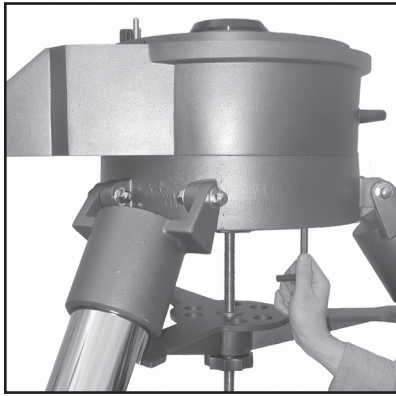

Fig. 31: Attach the drive base to the tripod.
3. Position the 16" drive base onto the field tripod, with the power panel facing South. Secure the drive base using the three 1/2"-13x1-1/2" long bolts. Thread these bolts up through the underside of the tripod head into the drive base using the supplied hex key. Firmly tighten these bolts. See Fig. 31.